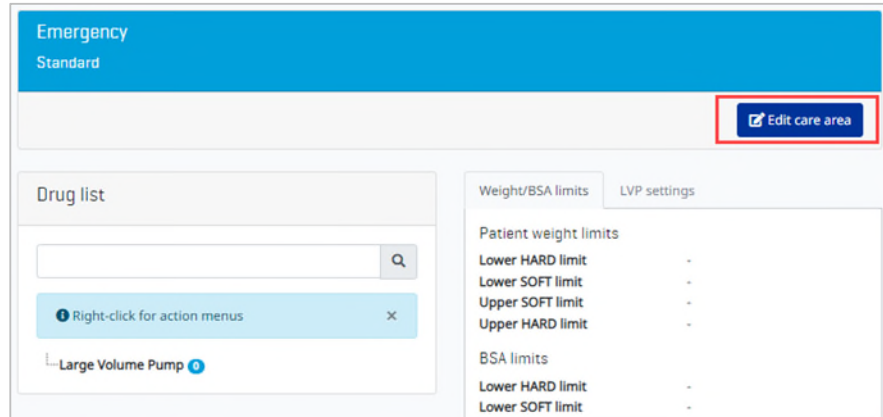

Figure 5
- a) Upon creating the new Care Area name, select **Edit care area** button within the new Care Area. (See Figure 5)